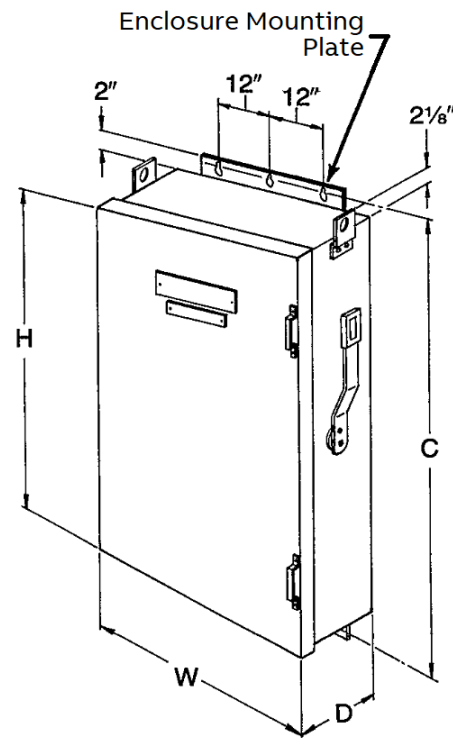

Figure 1
Step1: Lifting plates are provided and are assembled to the outside of the enclosure near the top end wall as shown in Fig.1.
Step 2: Remove the two enclosure mounting plates from the enclosure and reassemble to the outside of the rear wall, one at top and one at bottom, using the same screws, washers and nuts. Key-slotted holes are on 12.00 inch centers. Use 3/8 inch diameter bolts (not provided) to mount enclosure to wall. See Fig .1 and Table 1.